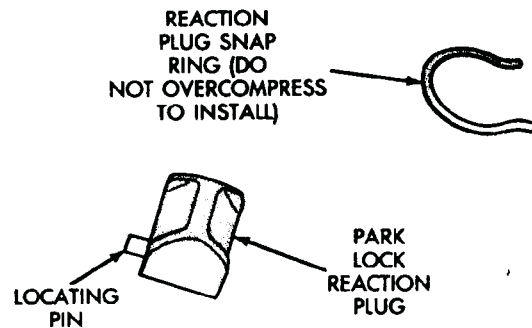

Fig. 69 Reaction Plug Locating Pin And Snap Ring
(13) Install park lock reaction plug. Note that plug has locating pin at rear (Fig. 69). Be sure pin is seated in hole in case before installing snap ring.